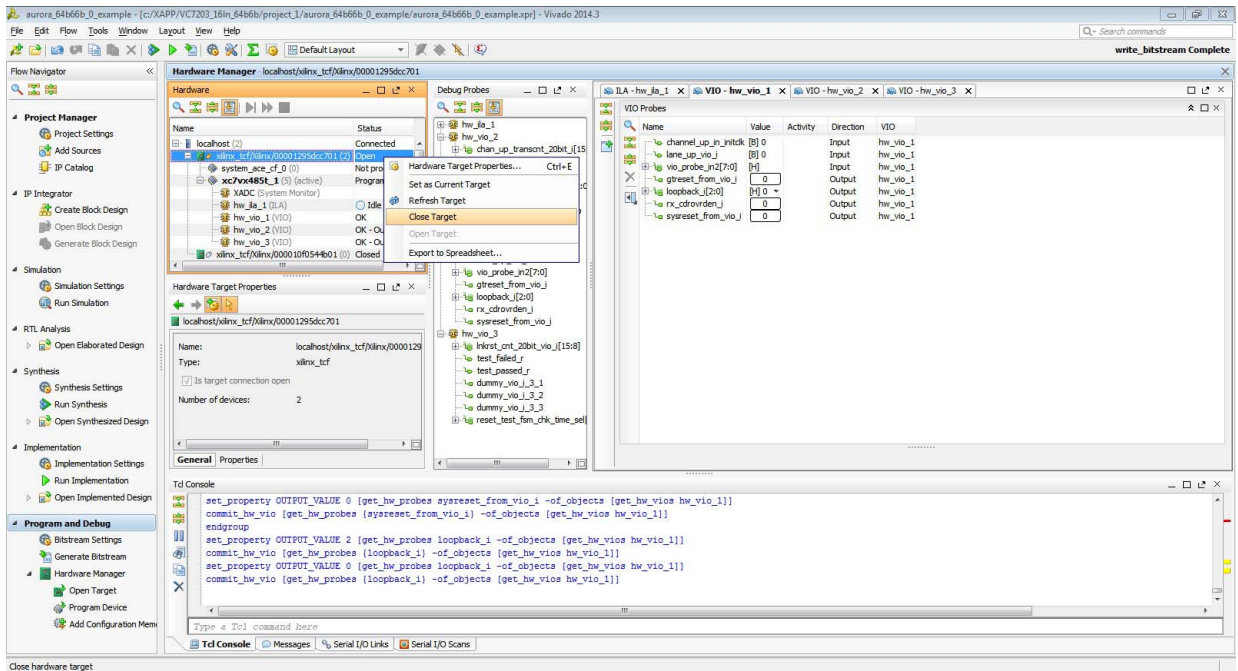

Figure 38: Close Target
4. Program the second board with the Aurora 64B/66B example design project bitfile. Close the hardware target. Right-click the device and click **Close Target** as shown in Figure 38.